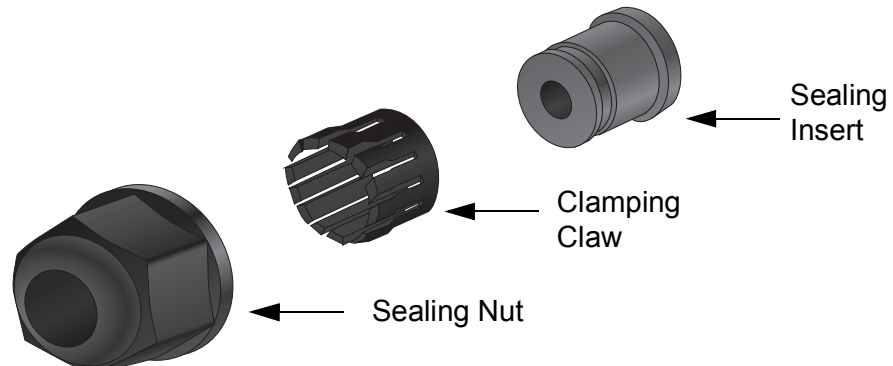

Figure 9. Sealing Nut, Clamping Claw, and Sealing Insert
3. Disassemble the sealing nut, clamping claw, and sealing insert. Refer to Figure 9.